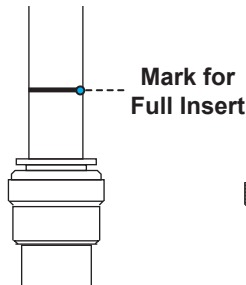

Figure 1
1. There is an existing mark (Figure 1) at the end of the tubing that you can use to confirm whether the tubing is fully inserted into the fitting. Push the tubing into the fitting until you reach the mark on the tubing.